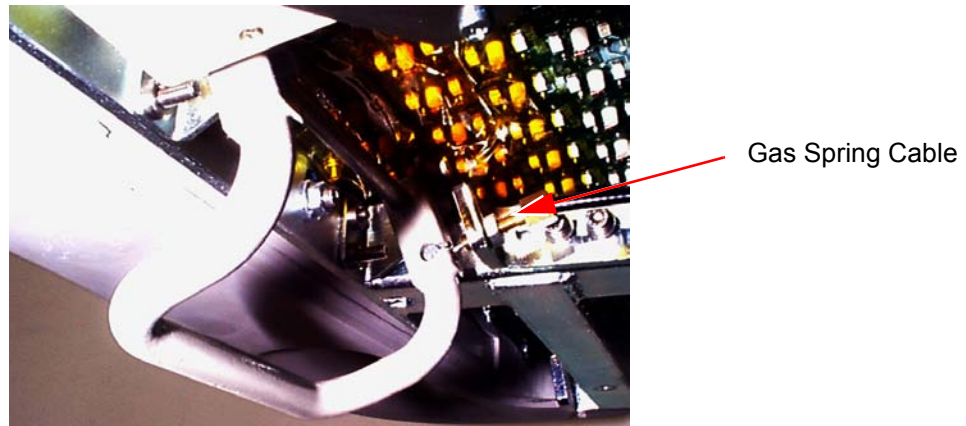

Figure 8-91 Gas Spring Release Handle
- 4.) Release the gas spring cable from the broken up/down handle - see Figure 8-91 on page 8-107.